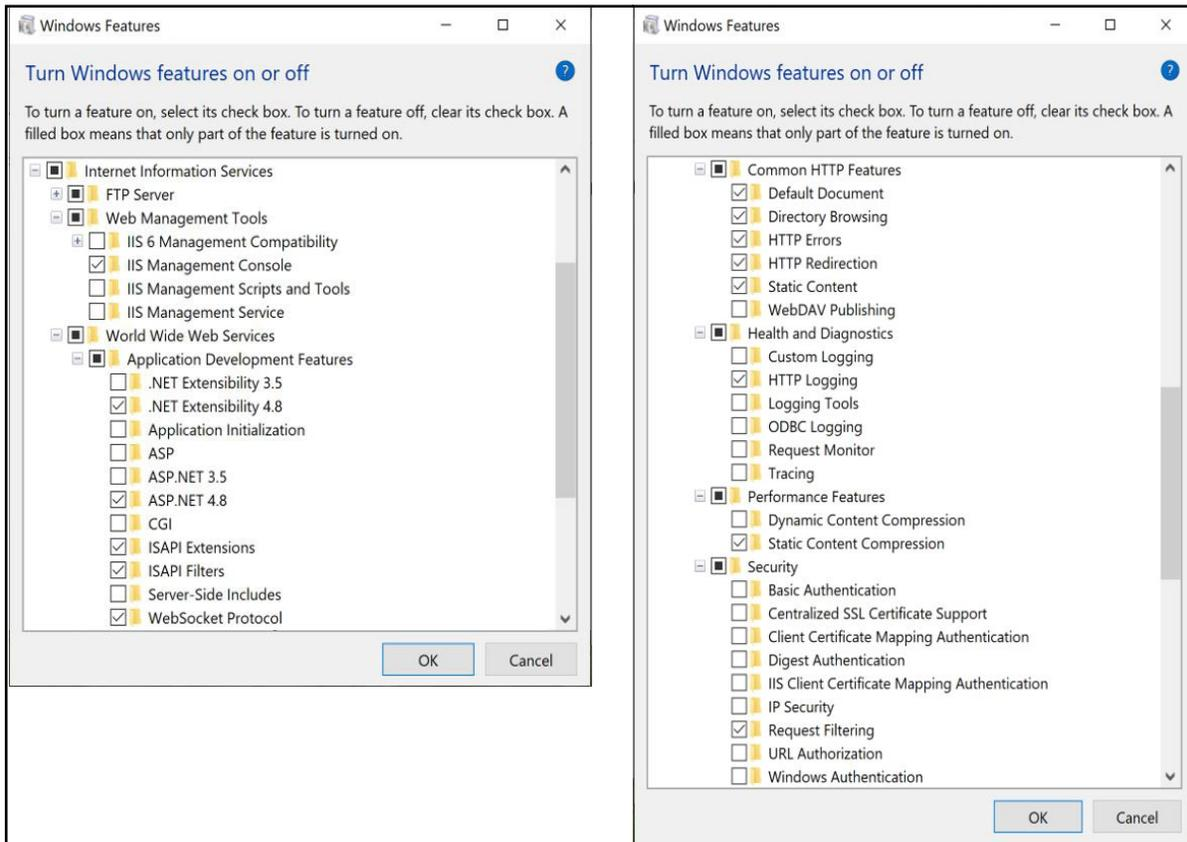

Figure 2-6. Windows Features Configured
B.2 Expand **Internet Information Services** tree and enable check boxes as displayed in Figure 2-6.